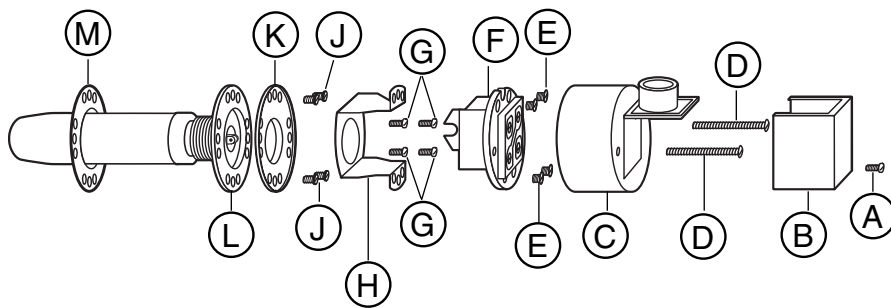

Figure 1
- a. **See figure 1.** Turn off all electrical power to the boiler. (There may be more than one power source to the boiler). Bleed off all pressure and let the boiler cool down to 80°F (27°C). Drain water level in boiler down below the control. Remove screw (A) and cover (B). Tag all wires for reconnection later. Disconnect wires from the terminals and remove conduit connection from housing (C). Remove two (2) screws (D) and switch housing (C). Remove four (4) screws (E) and remove switch (F). Remove four (4) screws (G) and bracket (H). Remove four (4) screws (J) and ring (K). The float and bellows assembly (L) can now be removed. Clean the gasket surface and mount the new float and bellows assembly. Remove four (4) screws (J) and ring (K). The float and bellows assembly (L) can now be removed. Clean the gasket surface and mount the new float and bellows assembly.
- b. Disassemble the new 6667 by removing screw (A) and cover (B). Remove the two (2) nuts on the back side of screws (D) and pull the assembly apart.
- a. **See figure 1.** Slip gasket (M) over float (L) and slide into body. Make sure that word **TOP** on the bellow base is at the top. Align the holes in gasket (M) with holes in the body, float and bellows assembly (L) and ring (K). Using four (4) screws (J) attach (L) and (K) to the body. Attach bracket (H) using four (4) screws (G) to ring (K) and body. Install switch (F) into bracket (H), making sure that the yoke on the switch fits around the roller in float and bellows assembly (L) and that the word TOP on the switch is at the top. Attach with four (4) screws (E). Attach housing (C) using two (2) screws (D). Install conduit connector and reconnect wires to their proper terminals. Install cover (B) using screw (A).